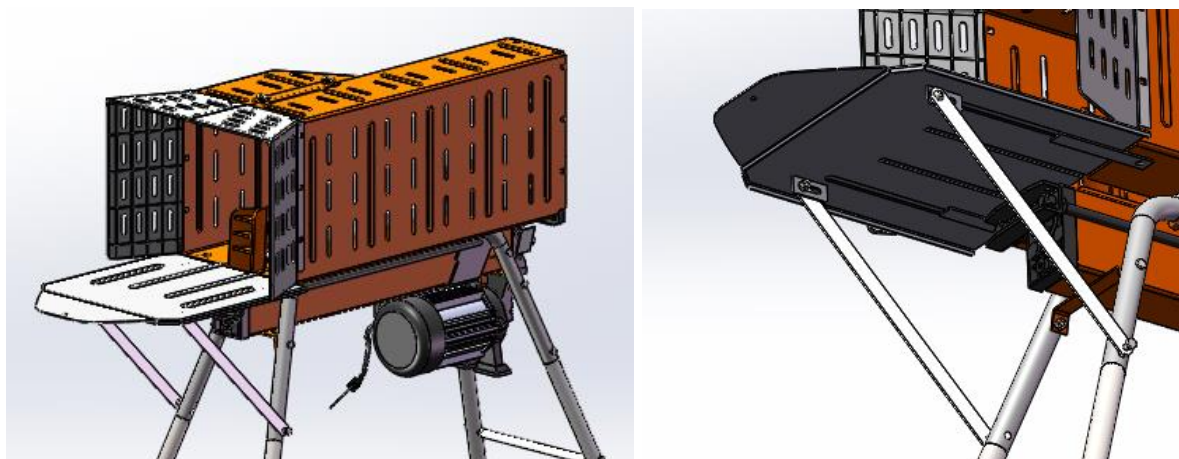

Fig. 4
4、 Install the stock support plate. Push the two M8×16 screws through mounting hole of the support plate and the stock support plate, tighten with two M8 nuts. Then push two M8×50 bolts through the mounting hole of the left and right bent legs and mounting hole of the stock support plate on the other side, tighten with four M8 nuts. (Fig. 4)